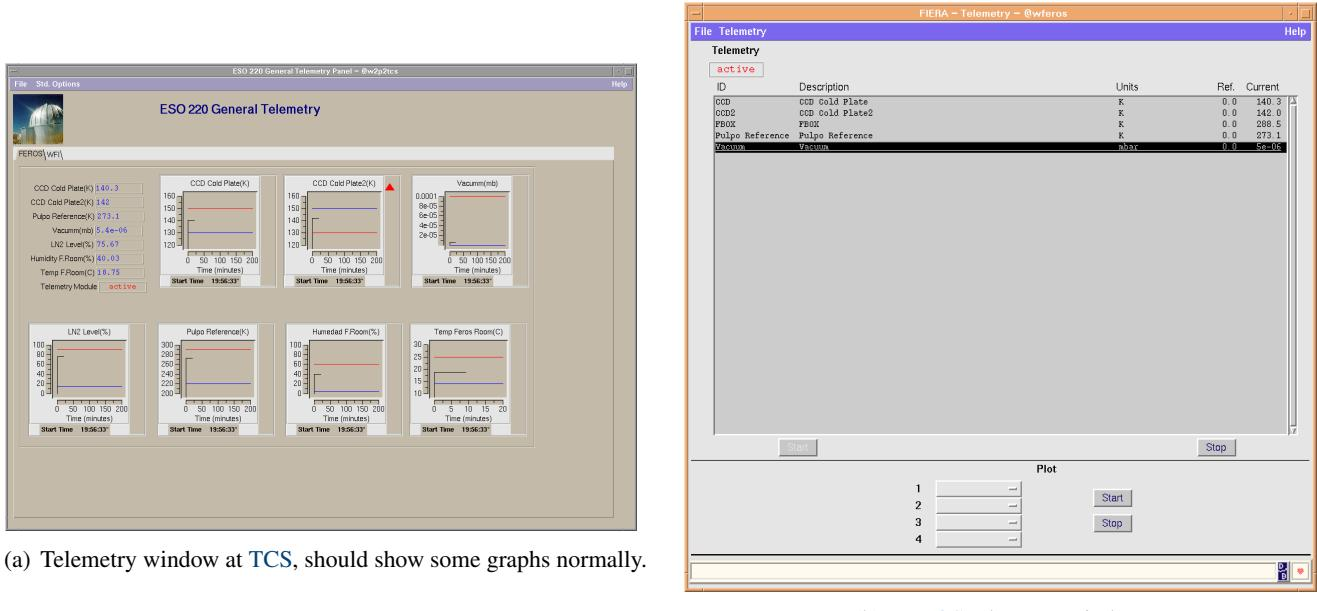

Figure 10.4: Telemetry window.
- There is a problem with the FEROS telemetry at TCS (window should show some graphs, Fig. 10.4(a)), run Procedure 10.16